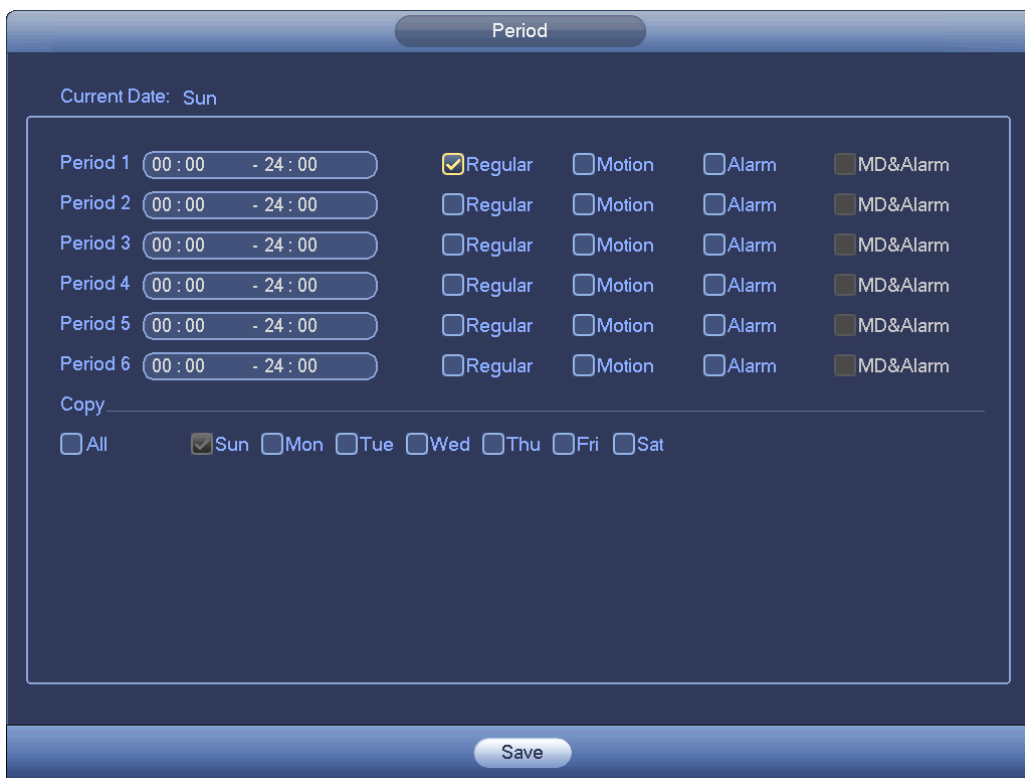

Figure 4-28
- Period setup: Click button  after one date or a holiday, you can see an interface shown as in Figure 4-28. There are four record types: regular, motion detection (MD), Alarm, MD & alarm.